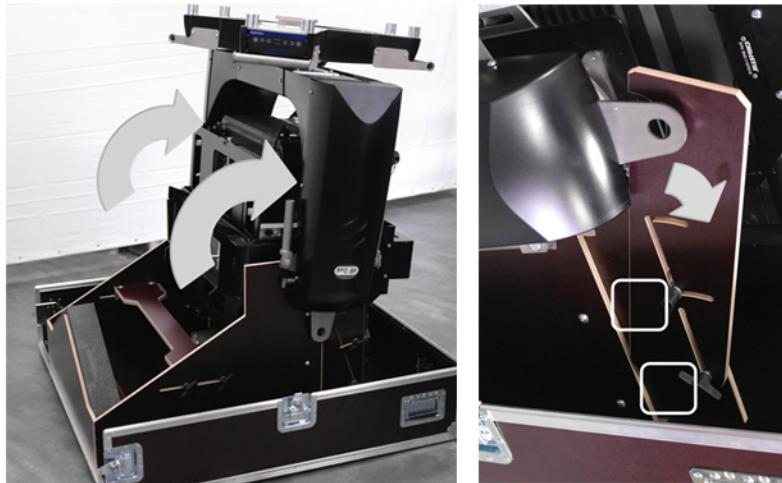

Figure 4-30 Tilt Yoke Up and Open Locks
7. Unlock the tilt axis and tilt the yoke up. Open the internal locks (both sides). (**Figure 4-30**)